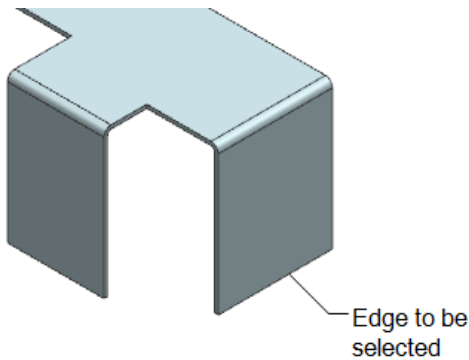

Figure 14-110 Edge to be selected
5. Select the bottom edge of the second flange, refer to Figure 14-110.